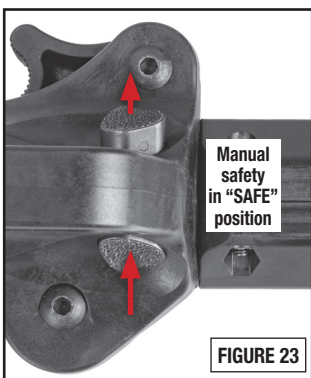

FIGURE 23
- Set the manual safety button to the "SAFE" position (FIGURE 23).